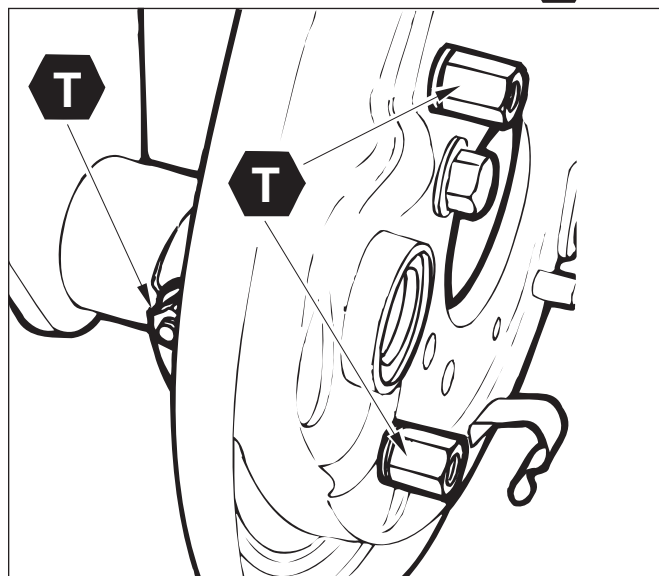

Figure 51. Air Chamber Bracket Mounting Hardware
3. Position bracket against spider and install lockwashers and barrel (or standard) nuts on mounting bolts. Refer to Figure 51.